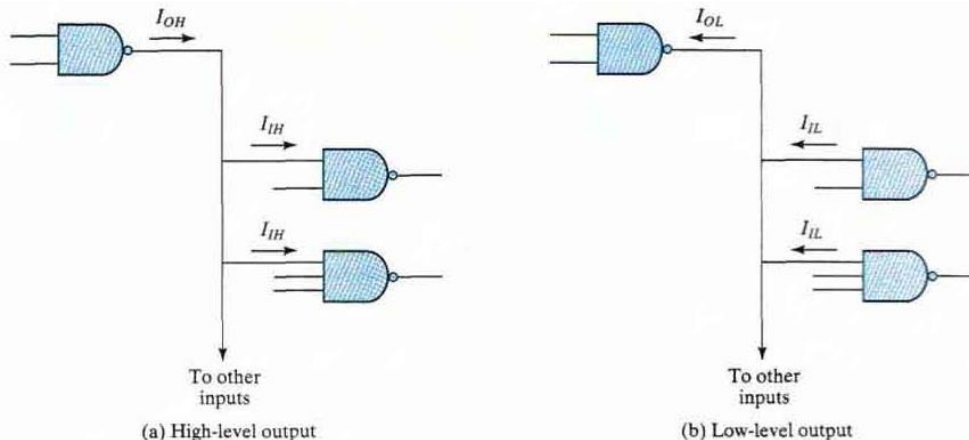

Fig 1. Fan out computation
- Consider the connections shown in Fig. 1 the output of one gate is connected to one or more inputs of other.
- The output of the gate is in the high-voltage level (Logic 1) in Fig. 1 (a). It provides a current source I_{OH} to all the gate inputs connected to it.
- Similarly, the output of the gate is in the low-voltage level (logic 0) in Fig. 1 (b). It provides a current sink I_{OL} for all the gate inputs connected to it. Each gate input supplies a current, I_{IL}